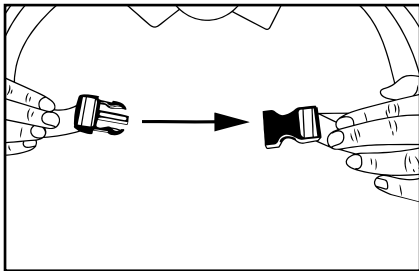
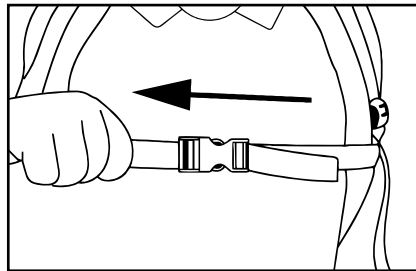

FIGURE 11
FIGURE 12
6.1 Once the machine is comfortable on your back, connect the top horizontal chest buckle **FIGURE 11** and then tighten by pulling on the end of the strap. **FIGURE 12.**